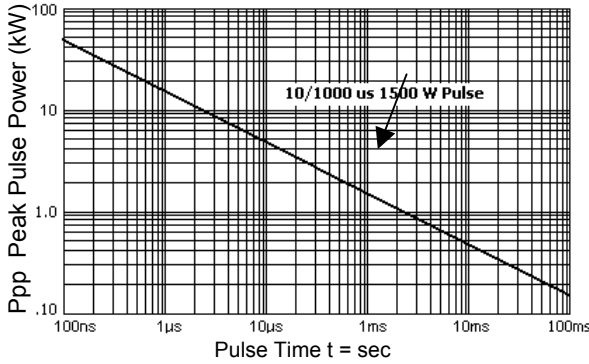

Figure 1
- Peak pulse power: 1500 watts (10/1000 μ s, Fig 1)